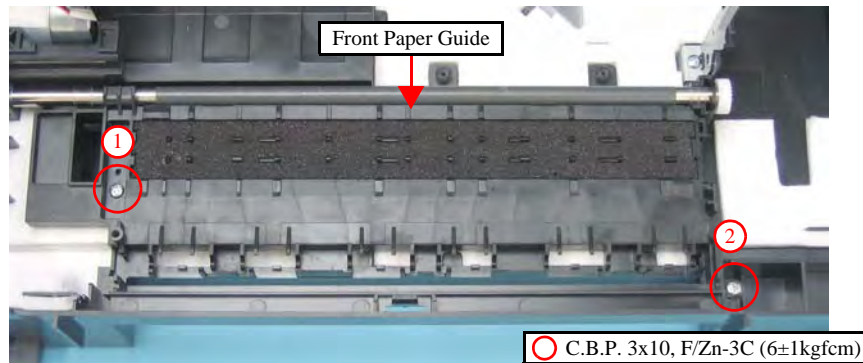

Figure 4-96. Removing the Front Paper Guide (1)
- Tighten the screws in the order given in Figure 4-96.